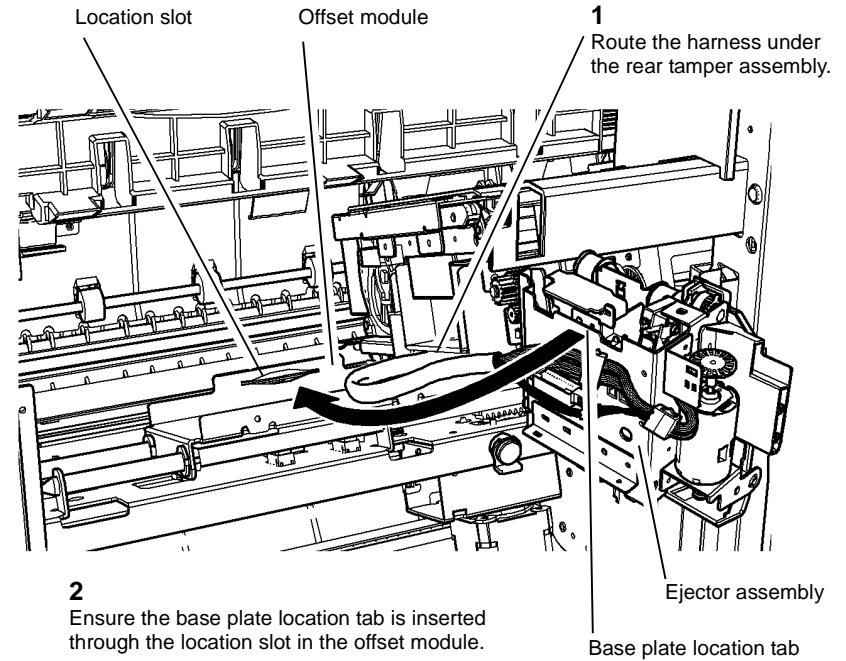

Figure 6 Reinstall the ejector assembly
- Prepare to reinstall the ejector assembly, Figure 6.